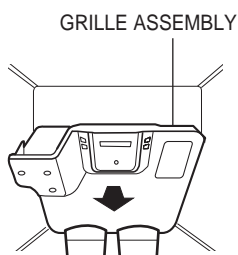

Figure 10
1. Pull out the grille assembly. (Figure 10)